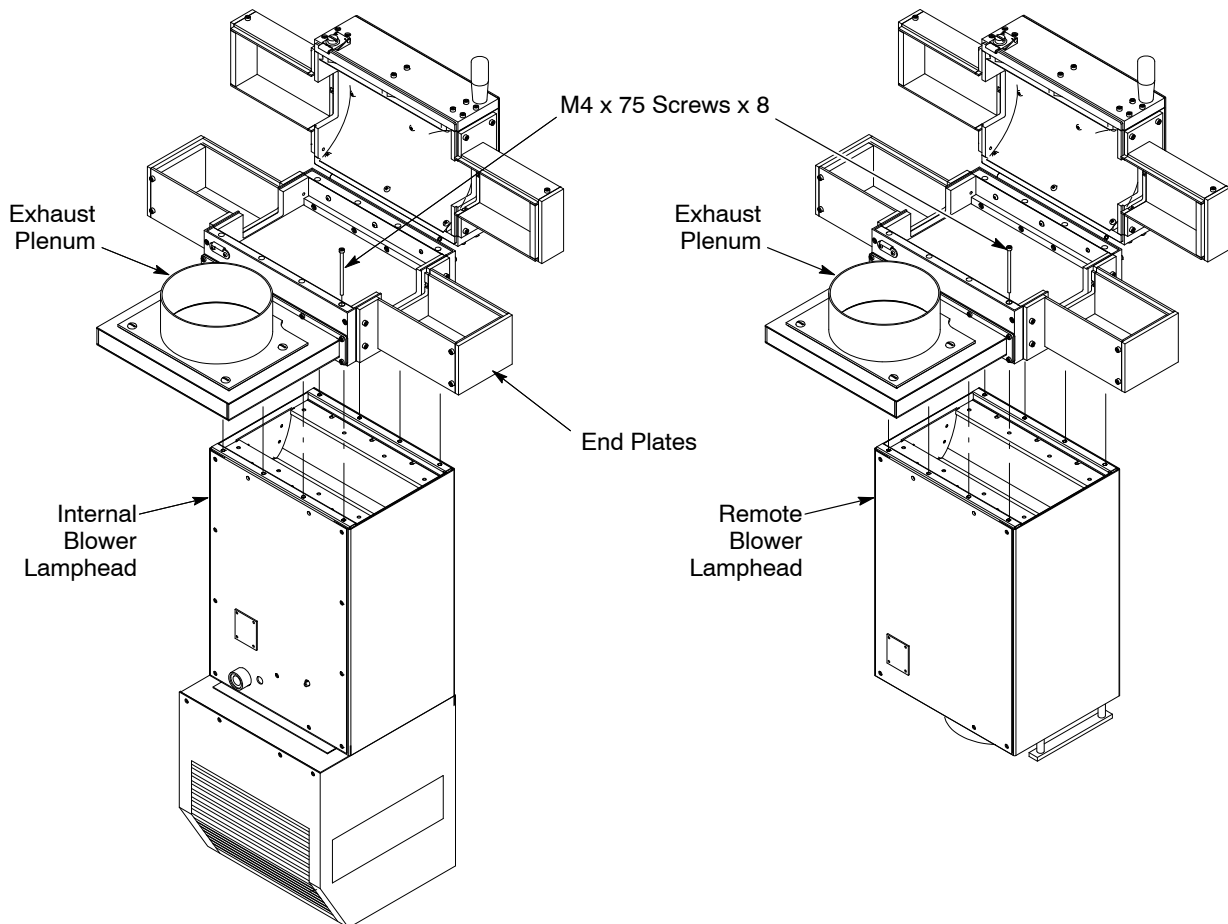

Figure 5 UV Light Box Installation on Lamphead
1. See Figure 5. Mount the light box on the lamphead as shown, using eight M4 x 75 standard socket-head screws included with the light box. Torque the screws to 4.5–5 N•m (40–45 in-lbs).